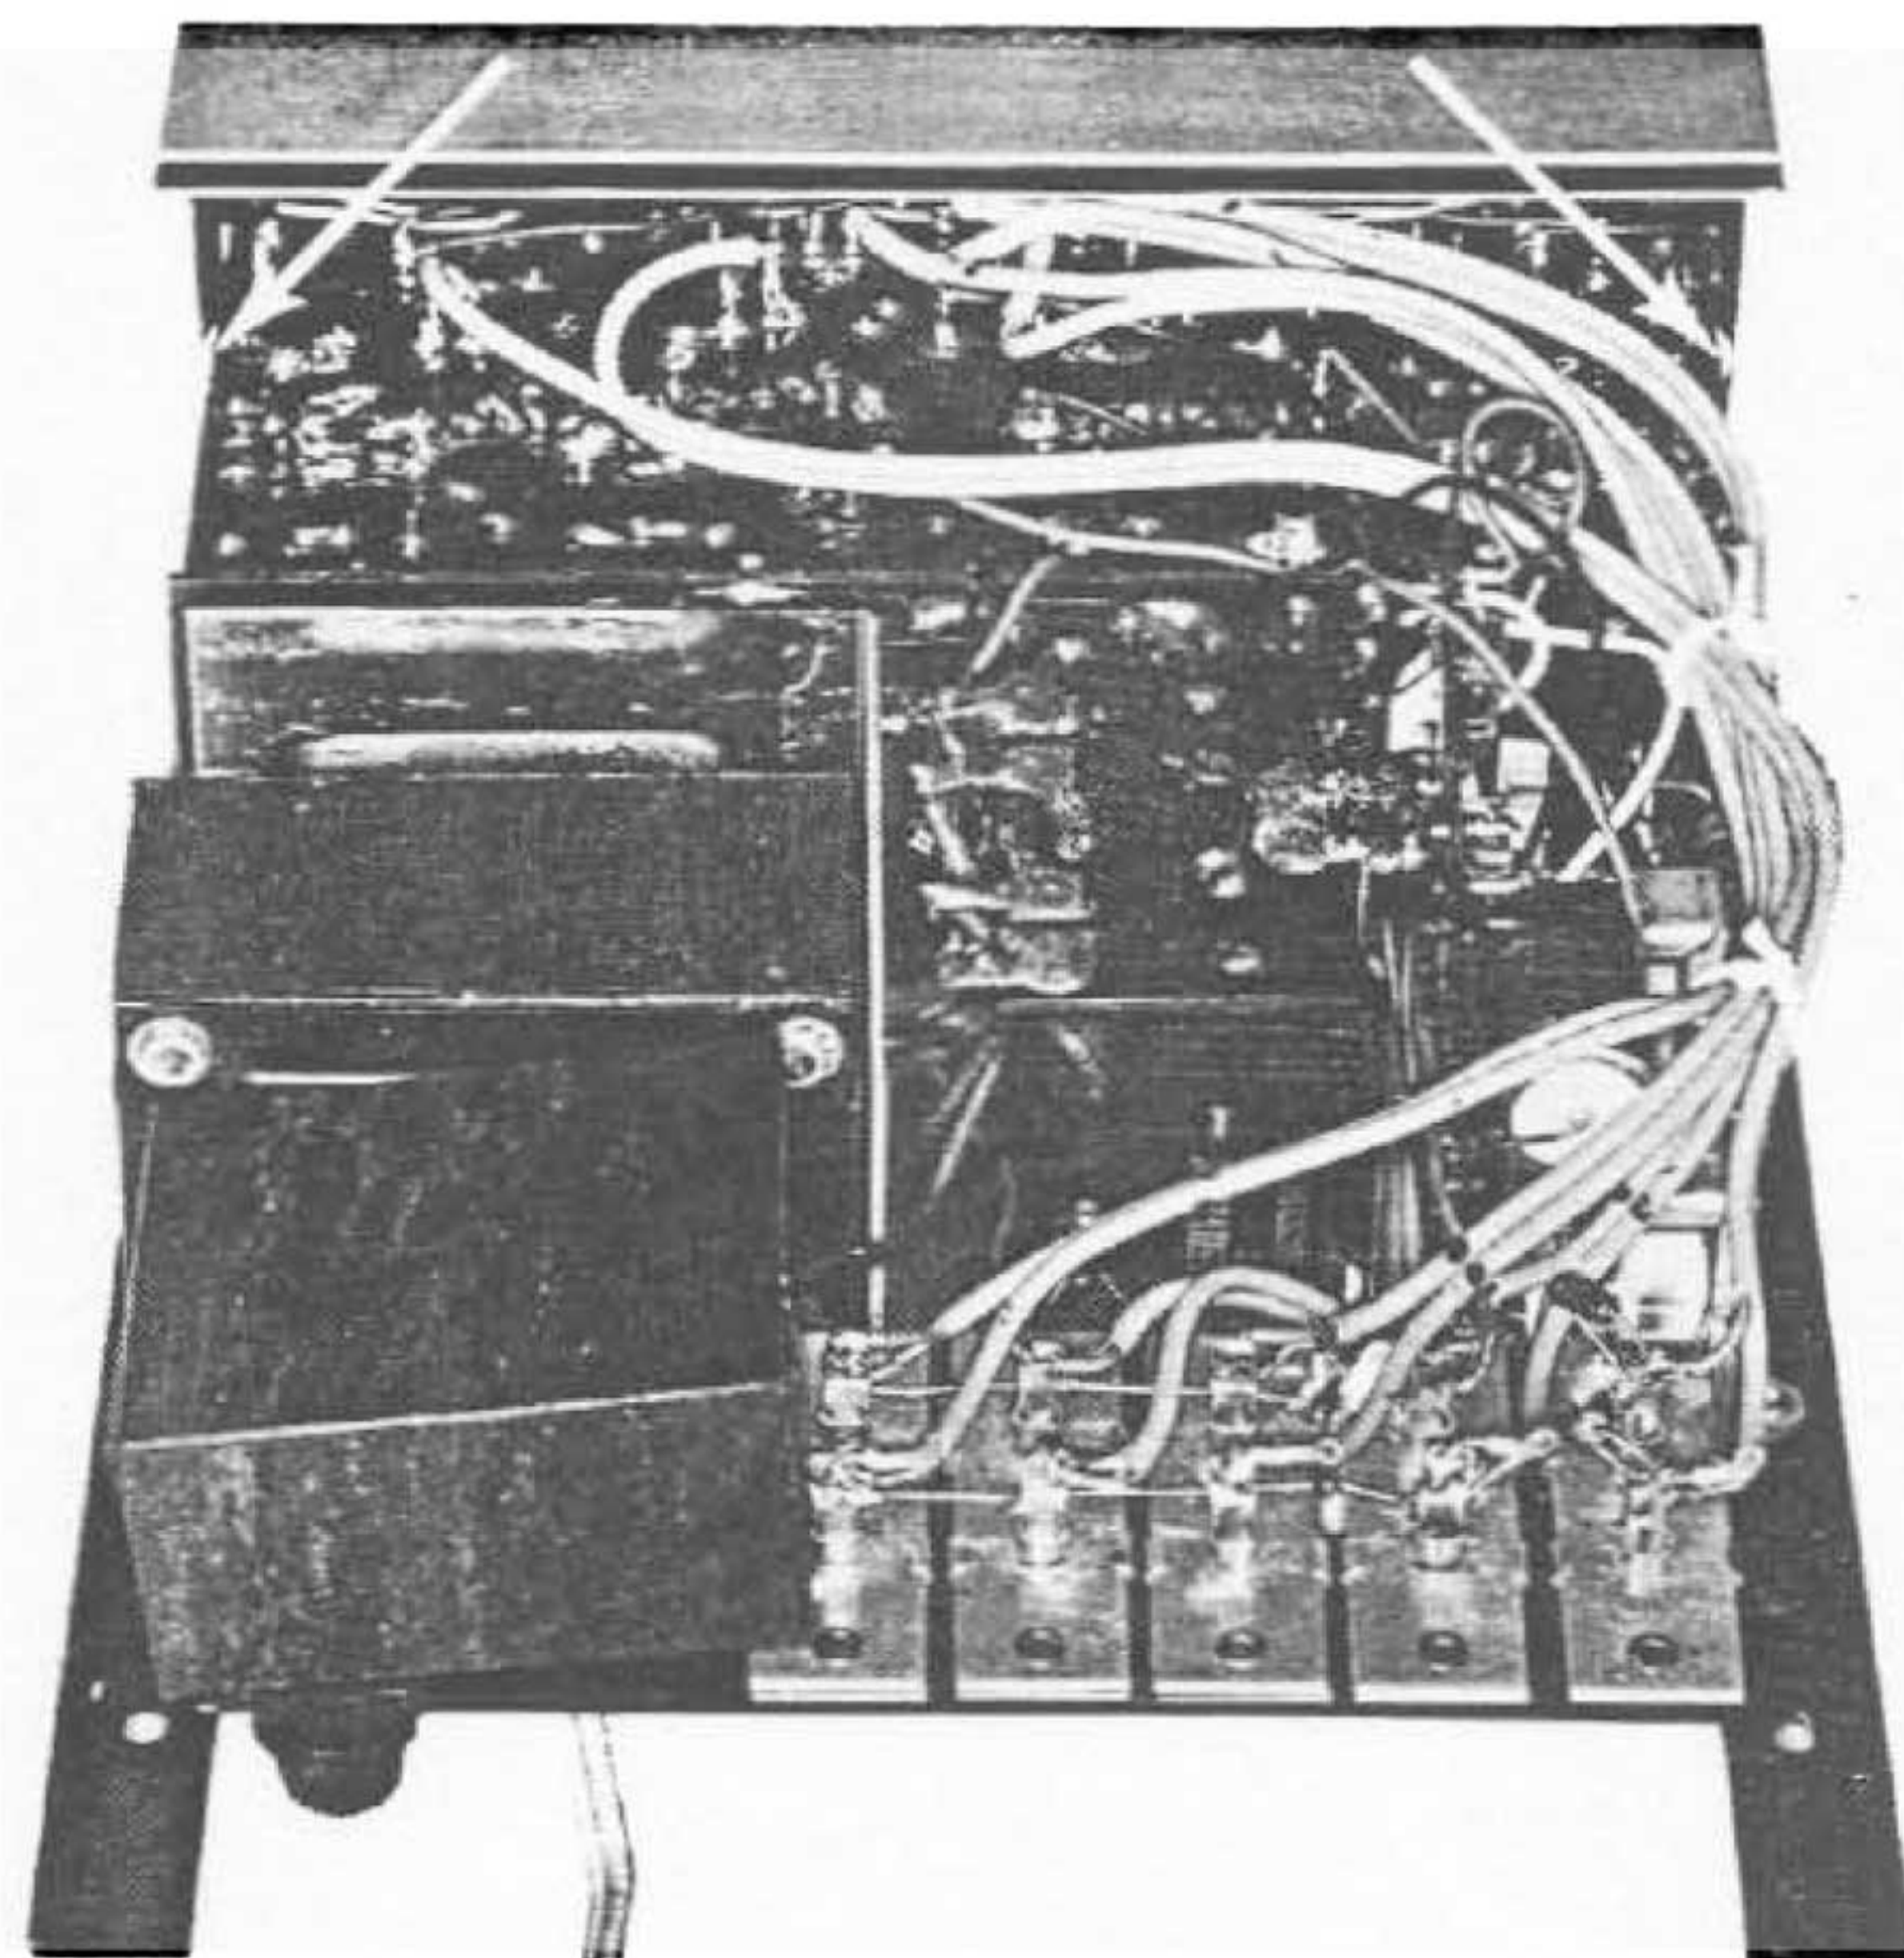

FIGURE 3
8. Remove 2 nuts from threaded studs on front panel. (See Figure 3 below)